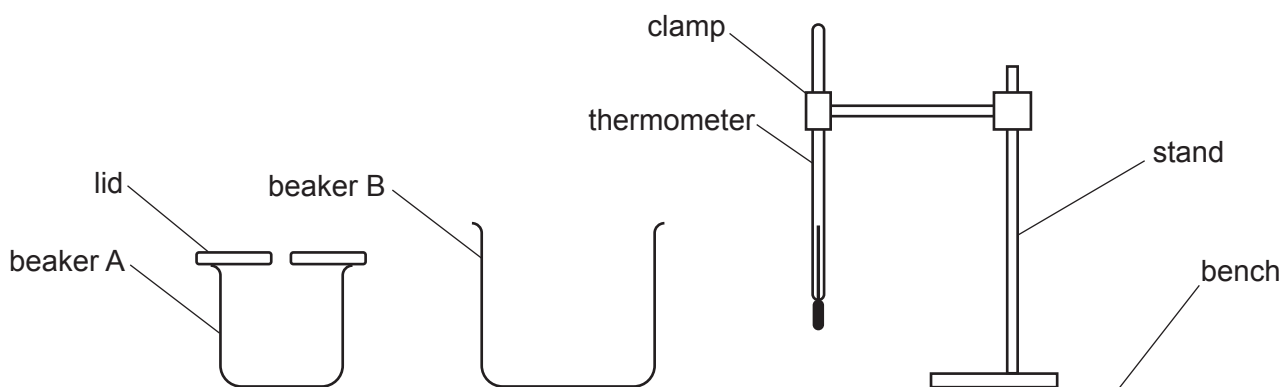

Fig. 2.1
1. The thermometer, clamp, boss and stand are to be set up for candidates, as shown in Fig. 2.1. The thermometer bulb must be below the 100 cm^3 level of beaker A. Candidates must be able easily and safely to read temperatures up to 100°C and to move the thermometer in and out of the beaker without removing it from the clamp. Candidates are to be provided with the two beakers as shown in Fig. 2.1.
Check that the apparatus is intact and is arranged as in Fig. 2.1.